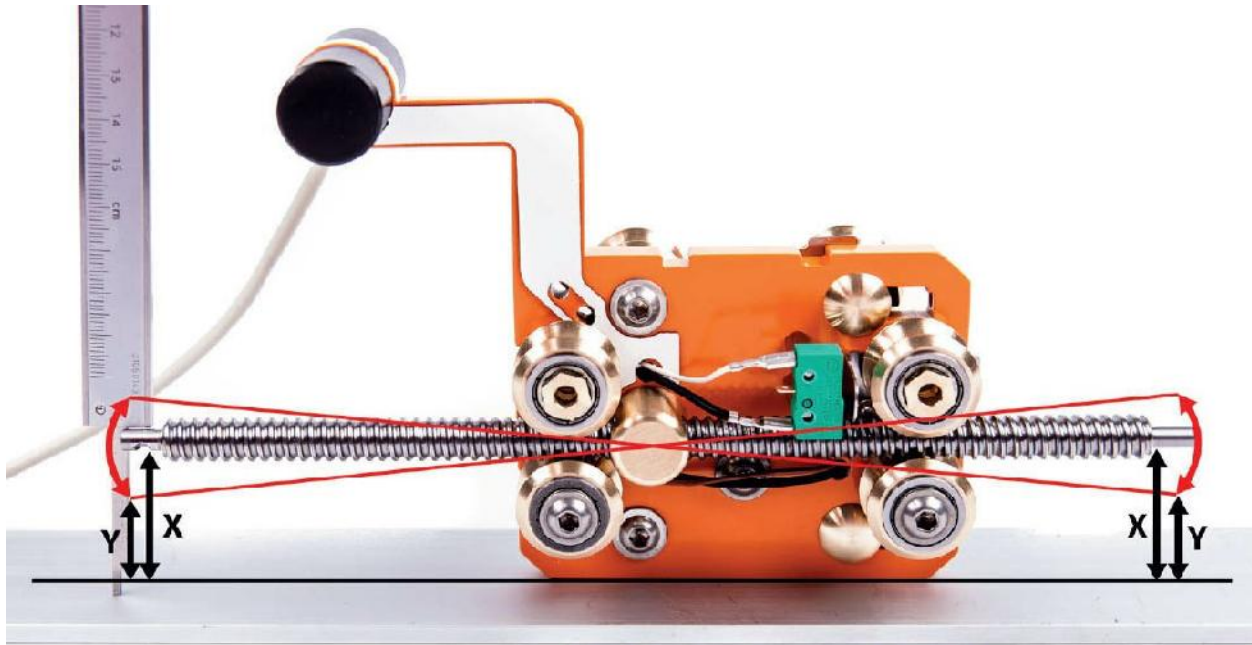

Fig. 2.19 Aligning the lead screw nut for the Z lead screw
28. Screw the shorter M10 lead screw into its nut (see figure 2.19) until equal lengths protrude from both sides. You now have to rotate the lead screw nut until the distance X is the same at both ends of the lead screw. The distance Y should also be the same if you press each end of the lead screw downward.
12. Adjust the lead screw nut until the offset distances X and Y (see figure 2.19) are identical at both ends. As previously, make sure that you don't alter the position of the aligned nut when you tighten its fixing bolt. Once the lead screw is correctly aligned,